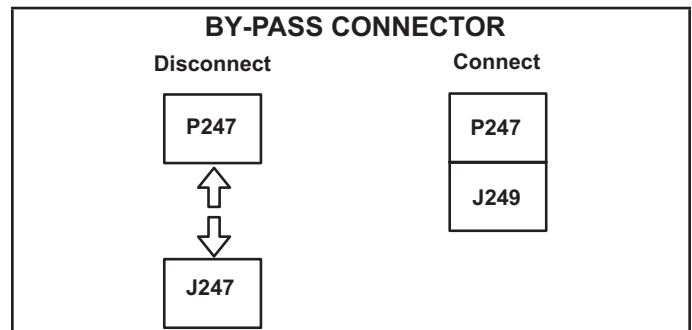

FIGURE 25
- 4- Disconnect P247 from J247 and connect J249 to P247. See FIGURE 25.